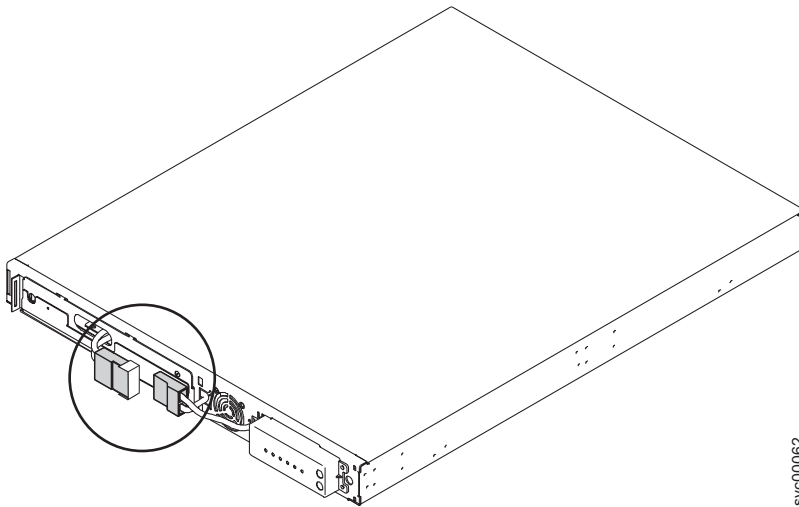

Figure 313. The 2145 UPS-1U internal battery connector with protective tape
7. After pulling the two connectors apart, cover the exposed battery connector (shown in Figure 313 on page 310) with adhesive tape.